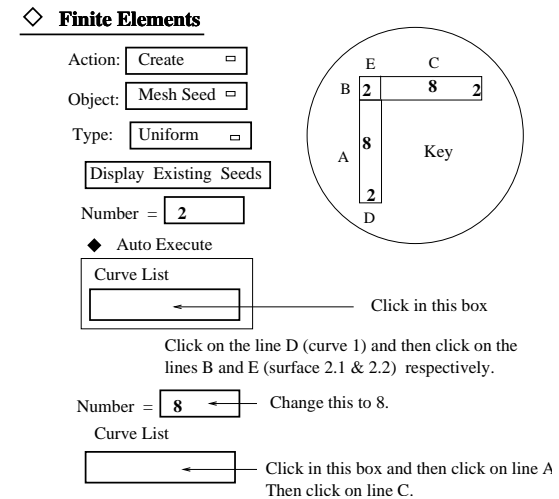

Figure 24: Mesh Seeds
Leave the current setting of Action/Object/Type as Create/Mesh Seed/Uniform (Figure 24). The choice of 'Uniform' for 'Type' means that the generated elements will be of equal width. It is possible to generate a graded mesh by changing the 'Type' to 'One Way Bias' or 'Two Way Bias'. However this will not be attempted for this example.
- Now click on the lines marked B, D and E respectively (shown in the Key in Figure 24). The mesh seeds showing how the sides will be divided should appear in the lines.
- Click on the 'Curve List' again and click on the left hand vertical line (Surface 1.1, marked A in Figure 24). Notice the internal numbering (surface 1 side 1). Where curves were not directly created (unlike the curves 1 and 2) the internal numbering of entities will be used. Don't be misled by the reference to 'Surface' when you expect 'Curve' to appear.